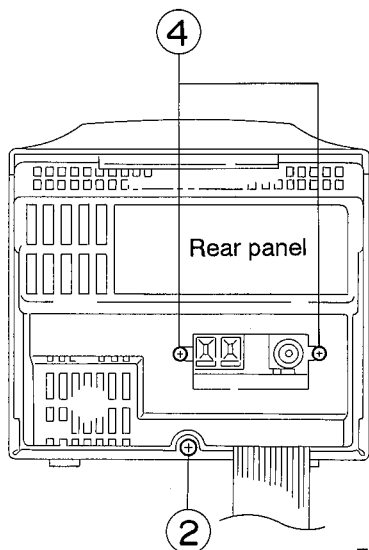
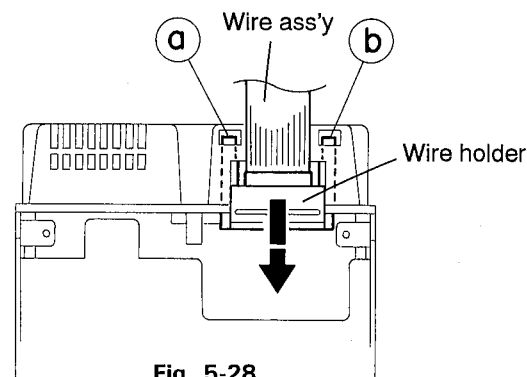

Fig. 5-24
Fig. 5-28
(See Fig. 5-24 and Figs. 5-28~31)
1. Remove the connection wire holder from the bottom face of the body by sliding it in the arrow direction while pressing the two pawls (a) and (b). (See Fig. 5-28)
2. Remove two screws (4) from the rear surface of the body (See Fig. 5-24).